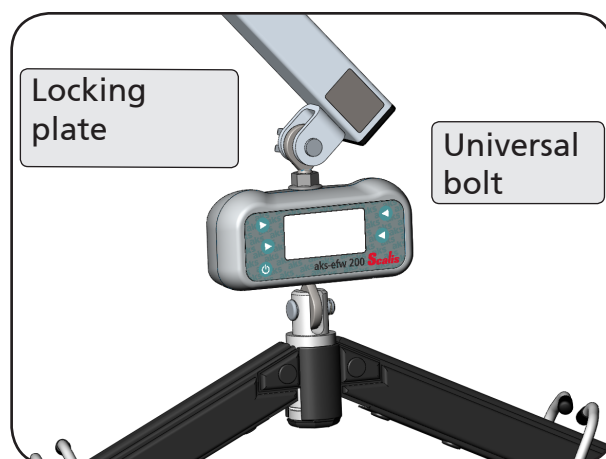

Figure 03
3. Finally, check the safe condition of the weighing unit (Figure 03).